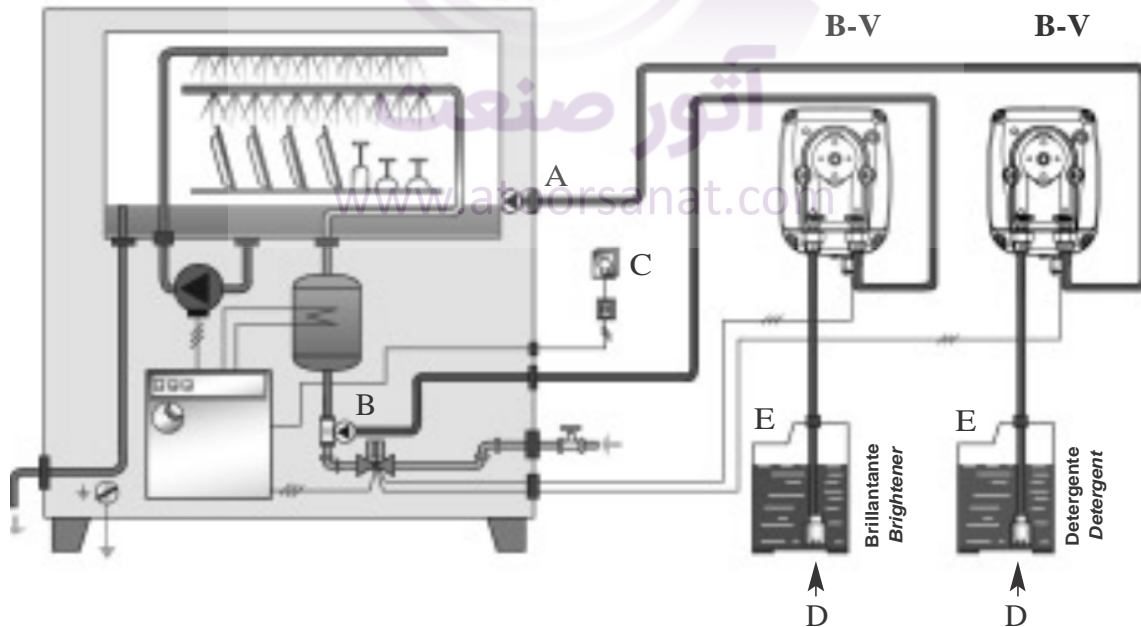

Fig. 8
f. - Apply the 90° injection fitting (A) to the basin of the machine a higher water level after having made a 12 mm hole.
3.1 - TYPICAL INSTALLATION B-V Fig. 8